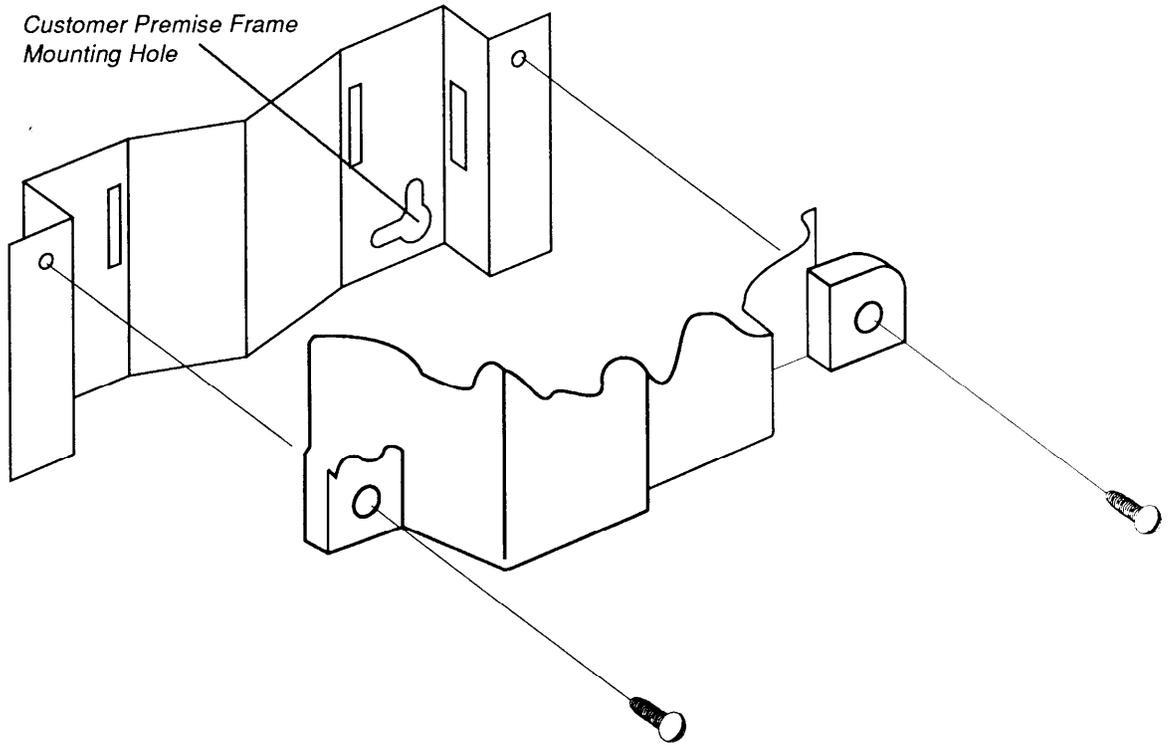

Fig. 4—Mounting the SNI-2125 to the Auxiliary Mount Brackets.
3.09 The SNI-2125, with the Optional Auxiliary Mount Brackets installed, will mount in place of two 66 type connecting blocks. Refer to figure 4 for location of mounting holes.